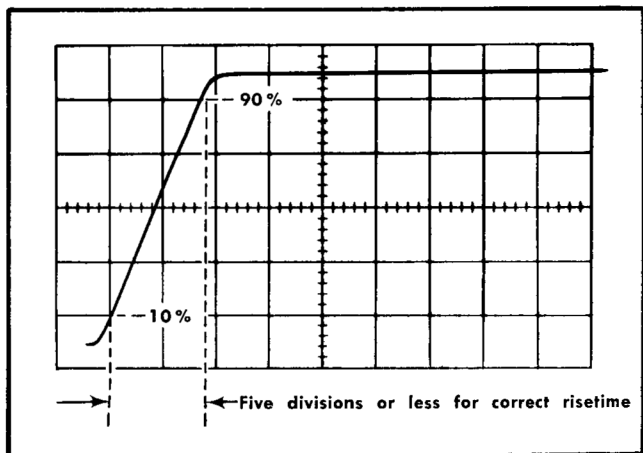

Fig. 6-65. Typical CRT display when checking calibrator risetime.
- d. CHECK—CRT display for five divisions or less between the 10% and 90% points on the leading edge of the calibrator waveform (one-microsecond or less risetime; see Fig. 6-65).